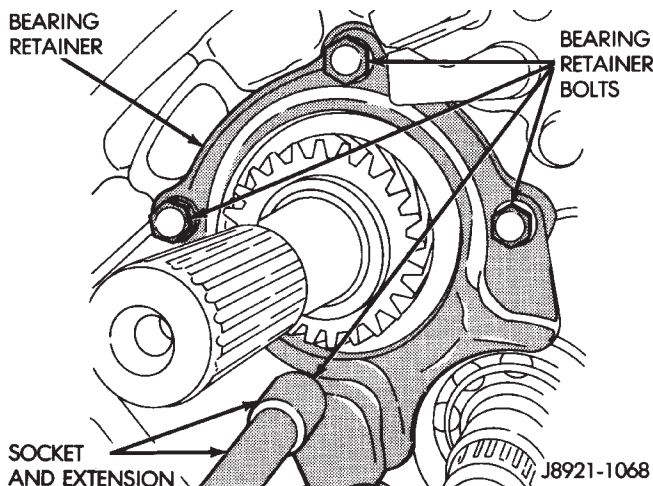

Fig. 61 Remove Output Shaft Rear Bearing Retainer Bolts
(13) Remove bolts holding output shaft rear bearing retainer to intermediate plate (Fig. 61).